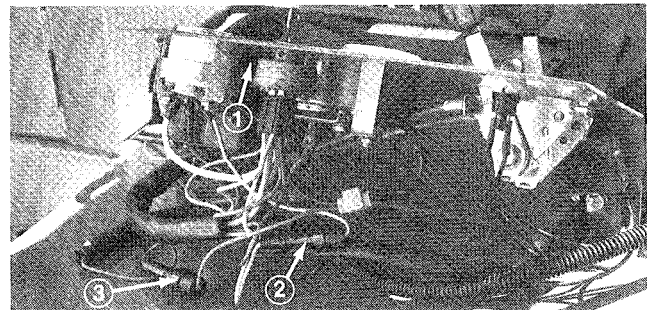

Figure 21
**Electrical System Fuses (Fig. 21)** — An engine temperature reset relay fuse — SFE 14 amp — is located at the rear of the reset relay. An inline fuse — AGC 15 amp — is also incorporated for the interlock switch system. Access to the fuses can be gained by removing the instrument panel cover.